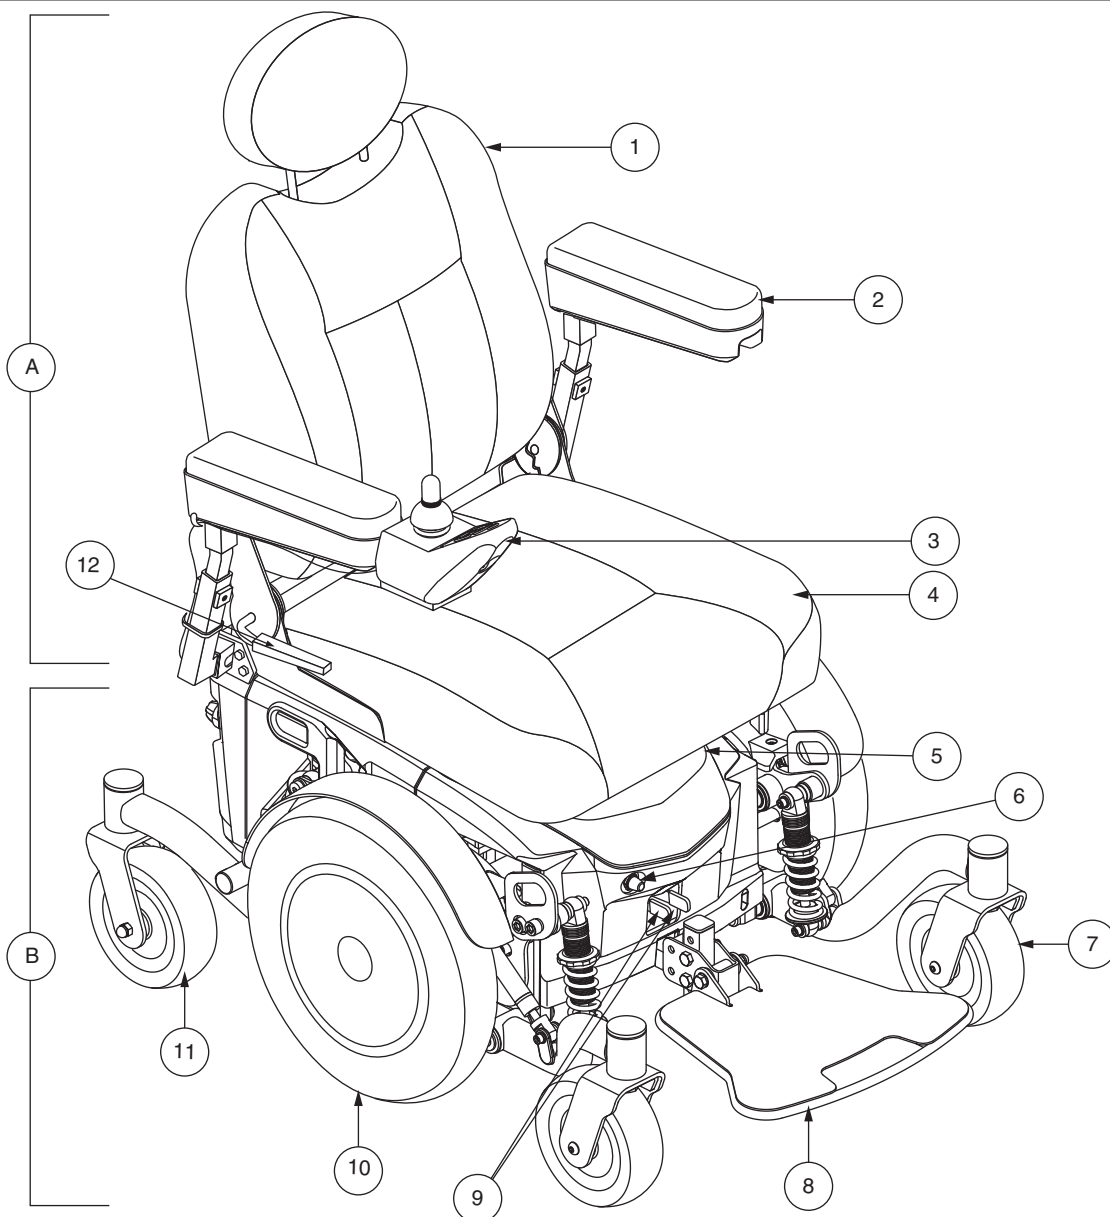

Figure 1. The Jazzy EVO 614 Series Power Chair
Your power chair has two main assemblies: the seat assembly (A) and the power base assembly (B). See figure 1. Typically, the seat assembly includes the armrests, seatback, and seat base. The power base assembly includes two motor/brake assemblies, two drive wheels, four caster wheels, two batteries, and wiring harnesses. See figures 1, 2, and 3.